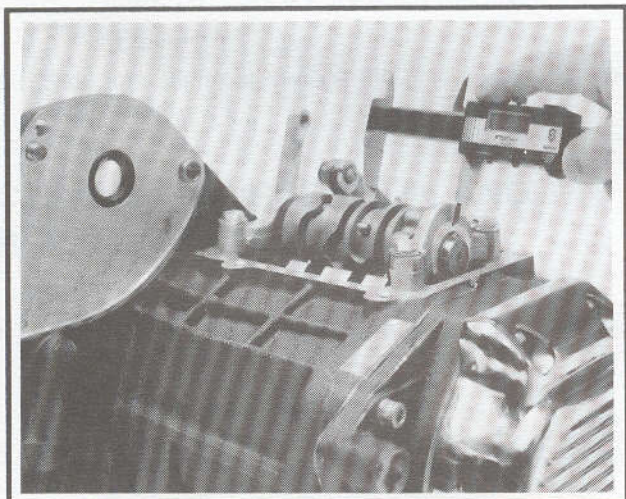

Figure 7-4. Check Shift Drum Position
2. See Figure 7-4. Rotate the drum to its neutral position. With the drum snug against the thrust washer of right support block, measure from the outside machined surface of the bearing support to the nearest edge of the center groove.